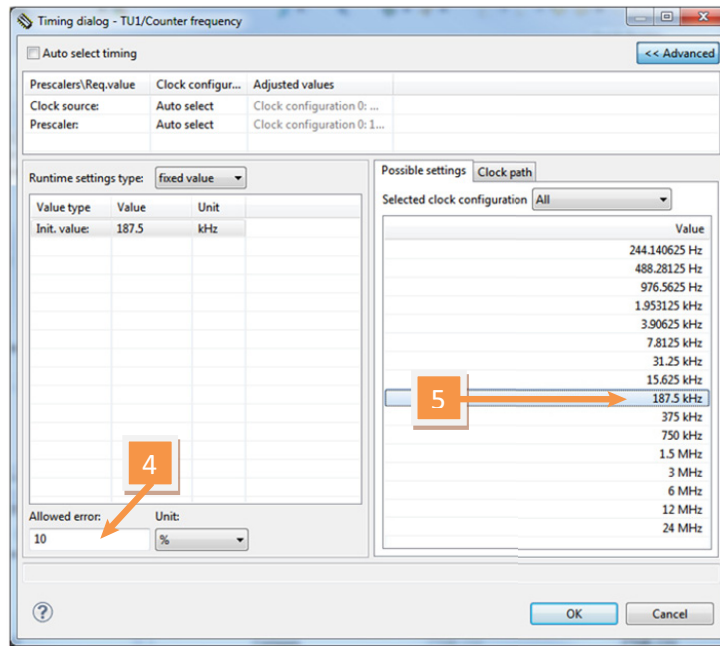

Figure 24. Component TimerUnit_LDD Timing Dialog—Select Input Frequency
- d) Set the **Allowed Error** value at 10% (see Figure 24).